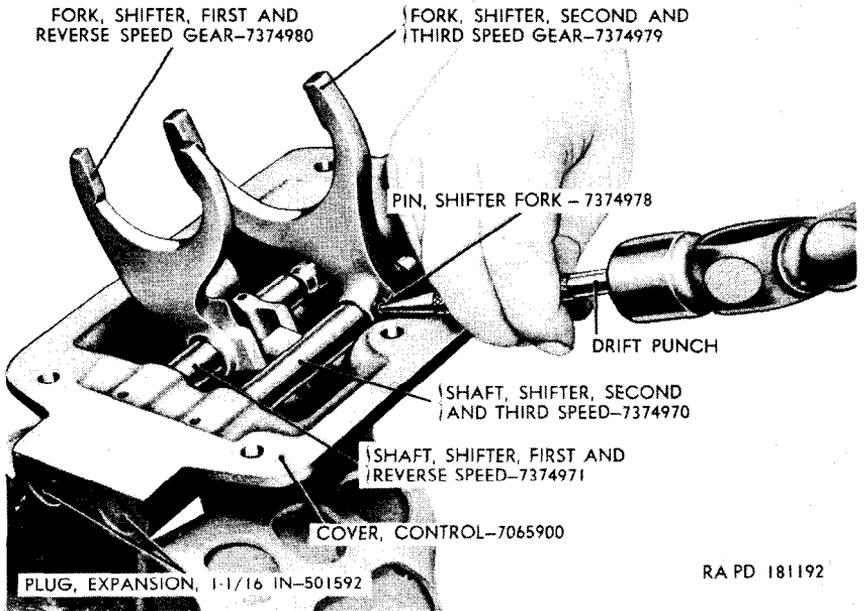

Figure 56. Removing shifter fork pin from shifter shaft.
b. *Remove Shifter Fork Pins.* Using a suitable drift, drive out two shifter fork pins (fig. 56) which secure the second and third speed gearshifter fork and first and reverse speed gearshifter fork to their respective shifter shafts.
c. *Remove Shifter Shafts.* Unscrew the two pipe plugs (D) from end of transmission control cover (T). Slide the second and third speed shifter shaft (N) and first and reverse speed shifter shaft (Q) out of shifter forks (A and V) and control cover (T) and lift the two shifter forks out of cover.